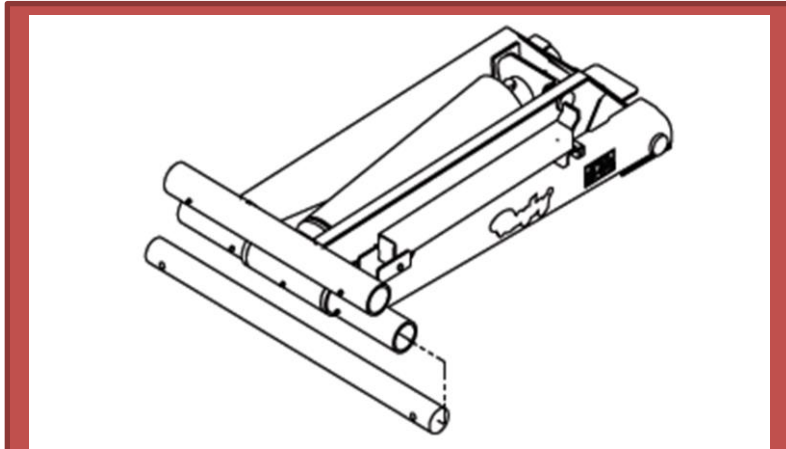

Figure 9: Saddle Tube Location
4. Slide the saddle shaft into the lower tube of the hoist so that approximately 4 inches extend past the tube on each side. (**Figure 9.**)